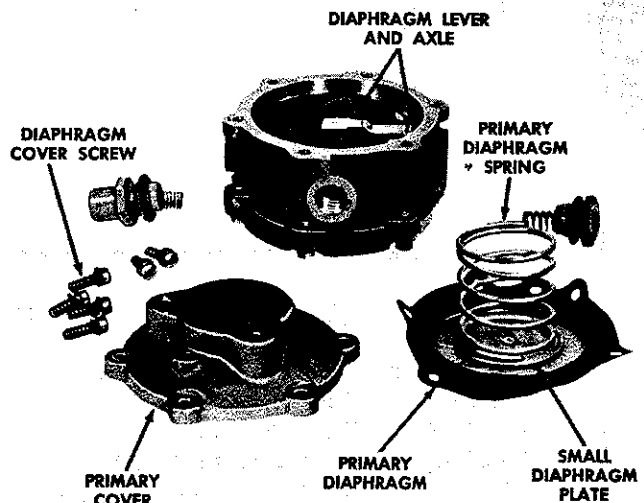

FIGURE 5
12. Install venturi and secure with venturi screw. Fig. 5.
5. Remove the primary cover, spring and diaphragm. Figure 5.